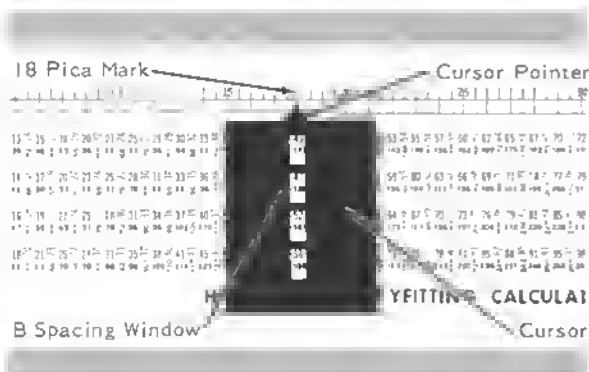

Figure 108
1. Slide the *cursor* (of calculator), matching its pointer with the 18 pica mark of the scale at the top of the calculator (Figure 108).